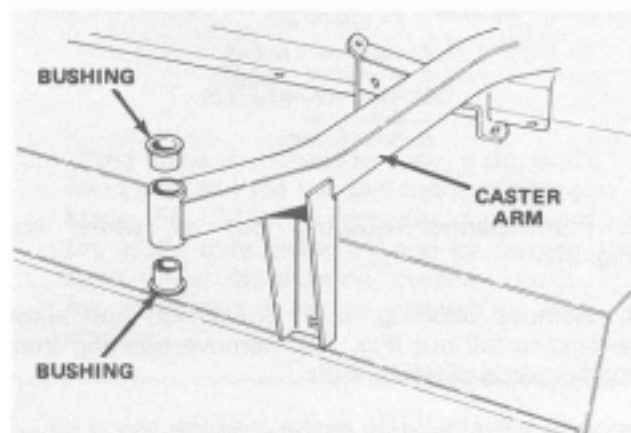

Figure 29
4. Insert a pin punch into the top or bottom of the mounting tube and drive the bushing out of the tube (Fig. 29). Also drive the other bushing out of the tube. Clean the inside of the tubes to remove dirt.